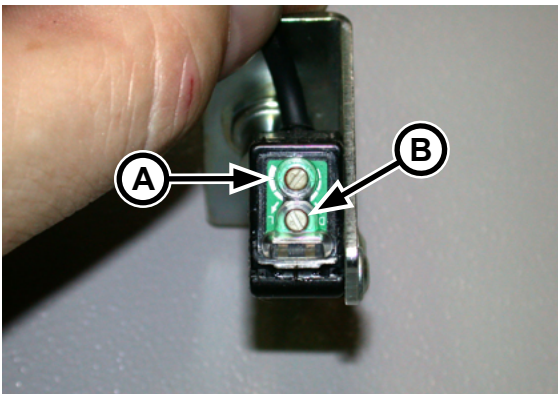

Figure 7-27: Photosensor sensitivity is adjusted using the potentiometer.
4. Use the proper size screwdriver to fit the slot in the potentiometer (Figure 7-27, A). Note that there is a different slot for switching between LO and DO (B). Do not change this setting.